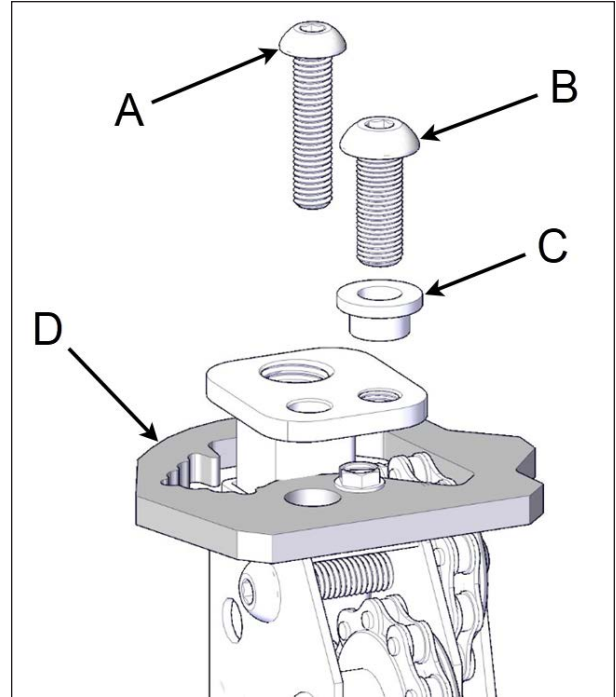

FIGURE 41: JACK LOCK SCREW (ITEM A)
17. Once all the drive shafts are installed, the jack lock screws located at the top of the non-motor-side jacks can safely be removed. Remove the Allen M8 x 50 mm screw from each jack and keep them for future use, see item "A" in Figure 41.
18. Unscrew the 3/8" x 1" Allen bolt with a 7/32" (5.5 mm) socket on the top of all four jack assemblies, see item "B" in Figure 41. Keep these screws and bushings (item "C") in a safe location for future use.